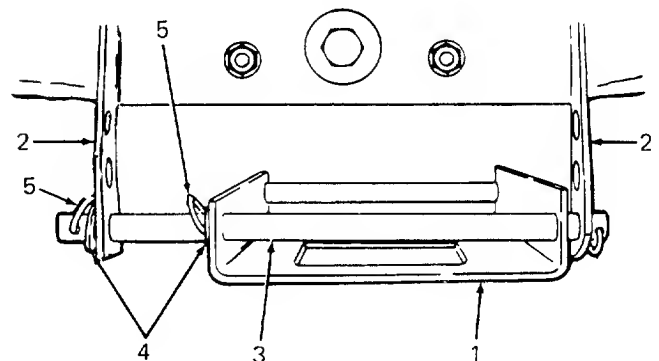

Figure 47
5. With the left front wheel turned to the left, attach the front hanger assembly to the front hanger bracket by passing the tractor hanger rod through the bottom mounting holes of the front hanger bracket. Remember to attach the center flat washer to the rod after it passes through the right side of the front hanger assembly. Refer to Figure 47. Secure the tractor hanger rod with flat washer and hairpin cotten.